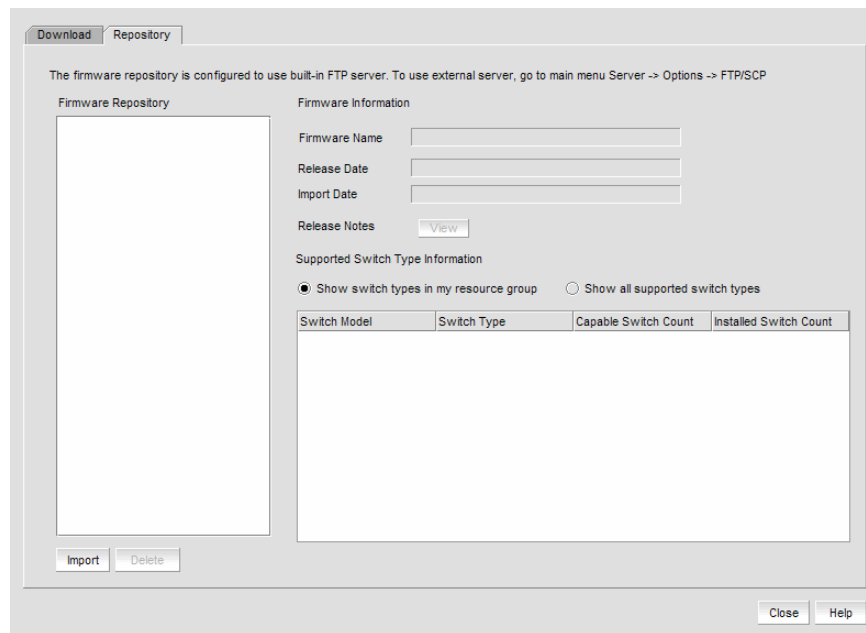

FIGURE 139 Firmware repository
2. Select the **Repository** tab (Figure 139).